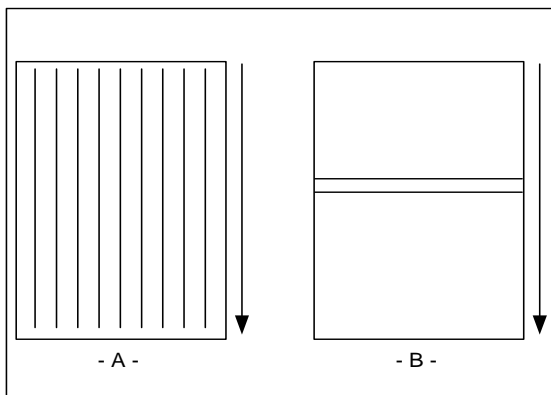

Figure 40
3. Straight waves in output (Fig. 40 A).
4. Indent waves in output after pull rollers (Fig. 40 B)